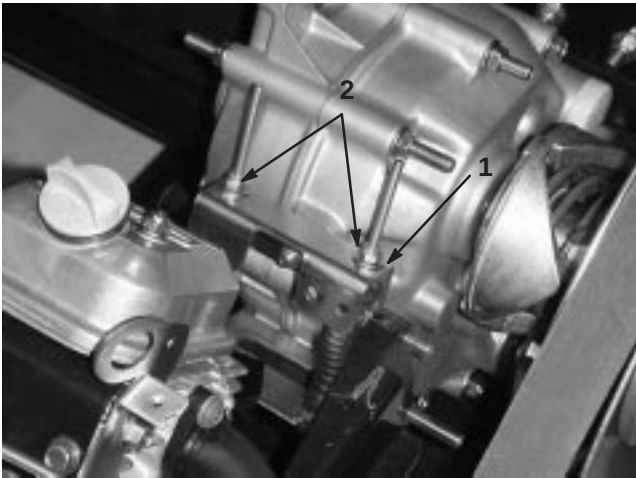

Figure 25
When performing routine maintenance and/or engine diagnostics, the transaxle must be shifted into neutral (Fig. 25). The vehicle has a neutral position on the shift lever, which controls the neutral in the transaxle. The following steps should be taken to make sure that the neutral shift lever operates the transaxle neutral correctly:
- 2. Ensure that the neutral bracket is in the neutral position (level) by turning the drive clutch (Fig. 25). The vehicle should not roll back and forth. If it does, manually move the neutral bracket to the neutral position.
- 3. Tighten one of the locknuts (Fig. 25) just enough to take the slack out of the shift cable.